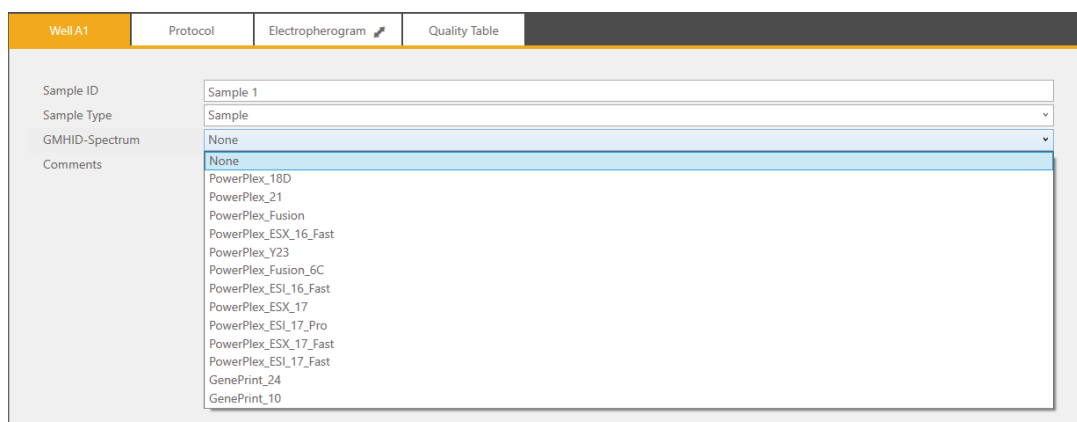

Figure 8. Drop-down options for GMHID-Spectrum run wizard templates.
6. **Optional:** Select **PowerPlex_ESI_17_Fast** in the GMHID-Spectrum drop-down menu (Figure 8).